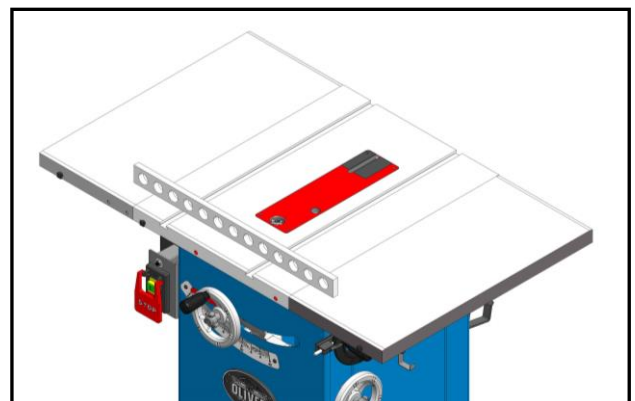

Fig. 8
8. Use a straightedge to determine whether the insert is level Fig.8 with the table top turn each of the 5 adjusting screws with the allen wrench until done.